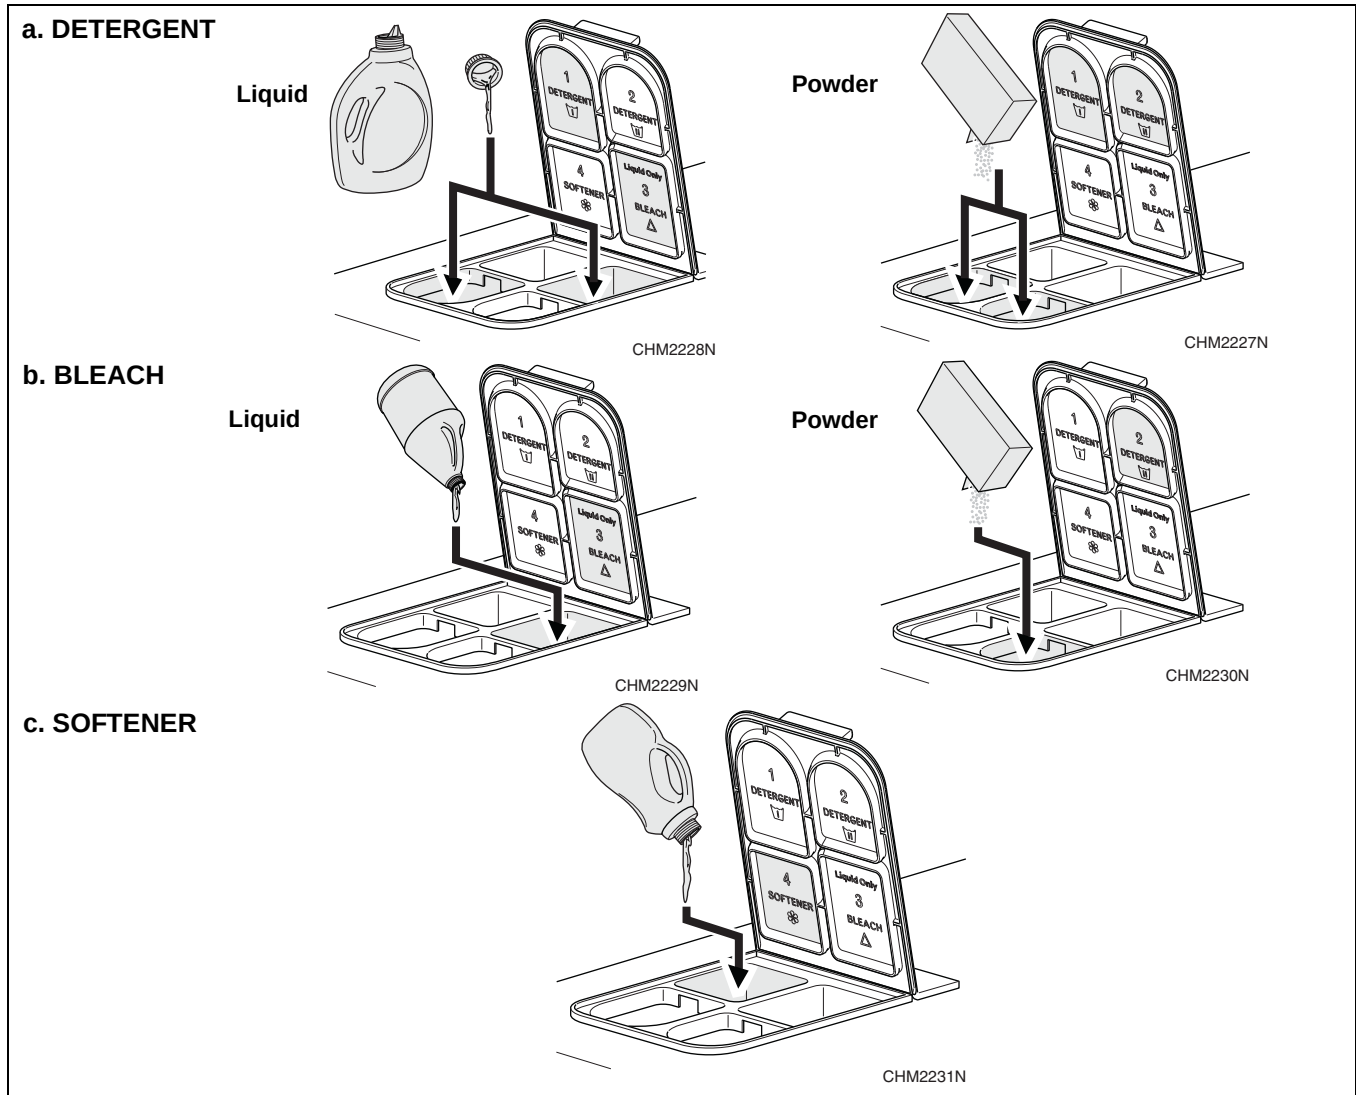

Figure 7
7. Add liquid and/or powder supplies to supply dispenser. Refer to *Figure 7*.